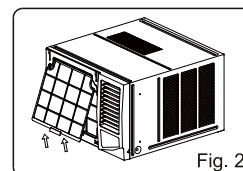

Fig. 2
3. Grip the tab on the end of the filter, lift it up, then pull it towards yourself, pull the filter out (see Fig.2)
1. Insert the air filter into the frame's slot from upside to underside. (See Fig. 2)